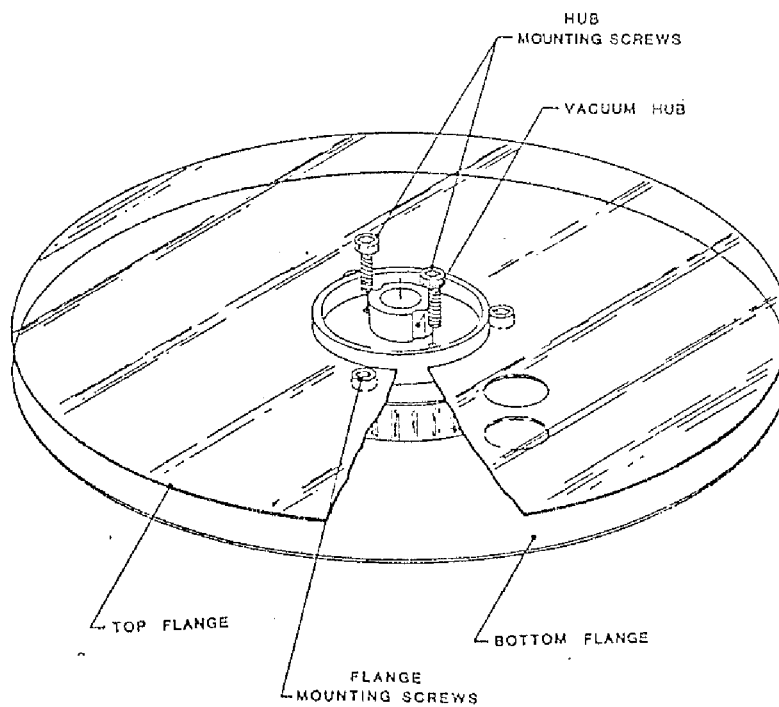

Figure 5-6. Take-up Reel Assembly
5.3.7 TAKE-UP REEL ASSEMBLY (Fig. 5-6)